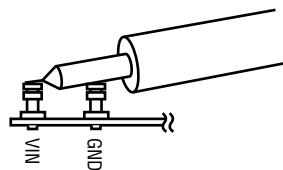

Figure 2. Measuring Input or Output Ripple
NOTE: When measuring the input or output voltage ripple, care must be taken to avoid a long ground lead on the oscilloscope probe. Measure the input or output voltage ripple by touching the probe tip directly across the  $V_{IN}$  or  $V_{OUT}$  and GND terminals. See the proper scope probe technique in figure 2.
5. Set the load current of both outputs to 600mA and the input voltages to 12V, and then measure each output ripple voltage (refer to figure 2 for proper measurement technique); they should each measure less than 20 mVAC. Also, observe the voltage waveform at either switch node (pin 5 for reg.1 and pin 8 for reg.2) of each regulator. The switching frequency should be about 2.25MHz  $\pm 20\%$  (period between 370ns and 555ns). Both switch node waveforms should be rectangular in shape, and 180° out-of-phase with each other.